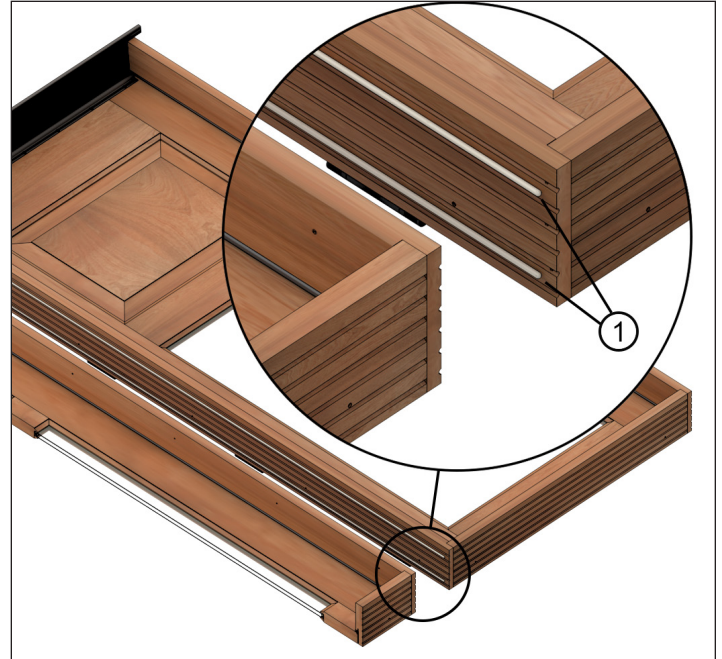

Figure 1
2. Apply two beads of sealant (approximately 3/16" thickness) between the door jamb and sidelite jamb. Align sidelite with door frame. See figure 1.